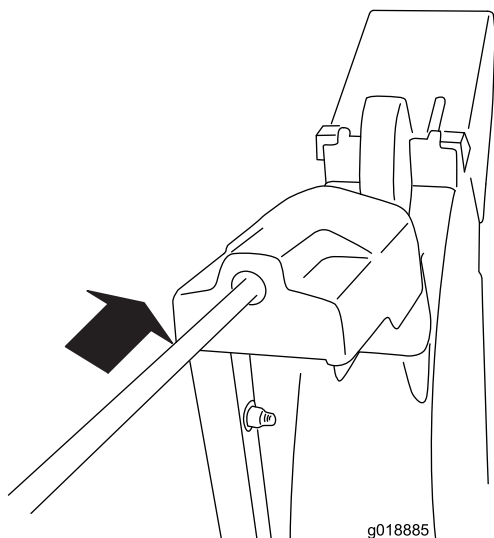

Figure 11
4. Insert the front end of the rod into the opening in the back of the chute-gear cover until it slides into the chute gear (Figure 11).